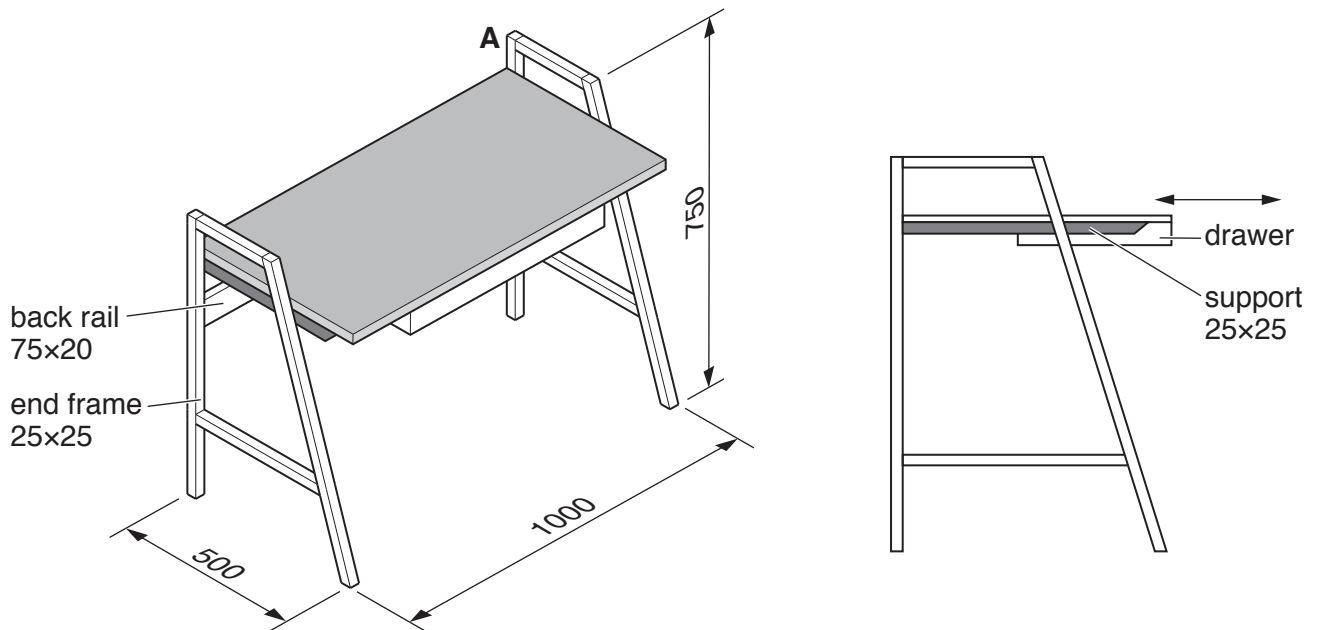

Fig. 15
- 13** Fig. 15 shows views of a computer desk manufactured as flat-pack for self-assembly. The end frames, back rail and supports are made from hardwood.
- (b) (i)** Sketch and name a permanent joint that could be used at corner **A** in Fig. 15.
Use sketches and notes to show how the drawer could be supported below the computer desk top and made to slide in and out as shown in Fig. 15. Include details of materials, constructions and **two** important sizes.